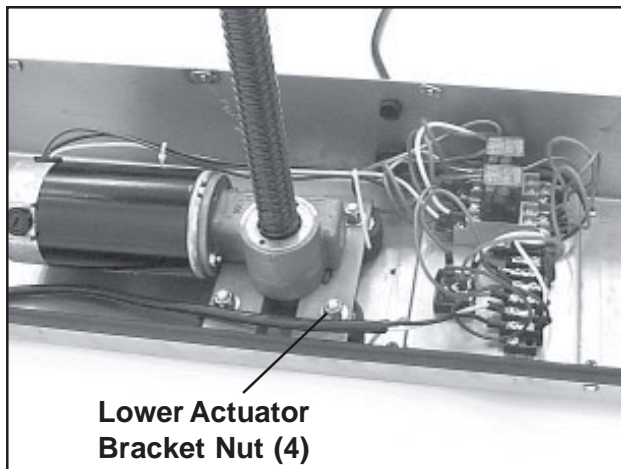

Figure 28. Lower Actuator Bracket Bolts
13. With a 1/2 in. wrench, unscrew the four lower actuator mounting nuts (Figure 28).